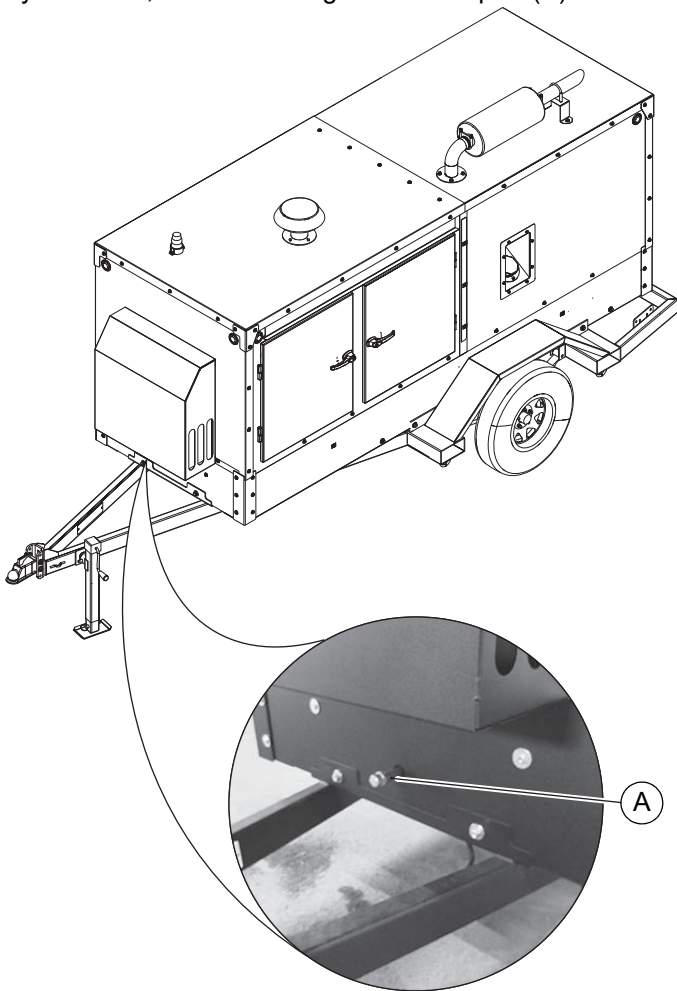

Figure 4-3. Drain Port—Engine Oil, Diesel Fuel, Engine Coolant, and Hydraulic Oil
See Figure 4-3. This unit is equipped with a *central fluid drain system*. Engine oil, engine fuel, engine coolant, and hydraulic oil; all drain through one drain port (A).